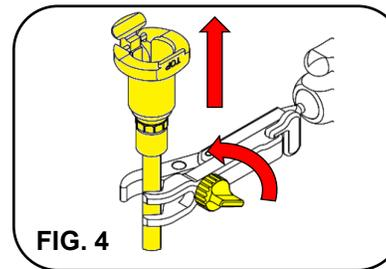

FIG. 4
- 2b. OPEN the clamping adapter jaw by rotating the actuation thumb screw counterclockwise to release the coupler. (FIG. 4)